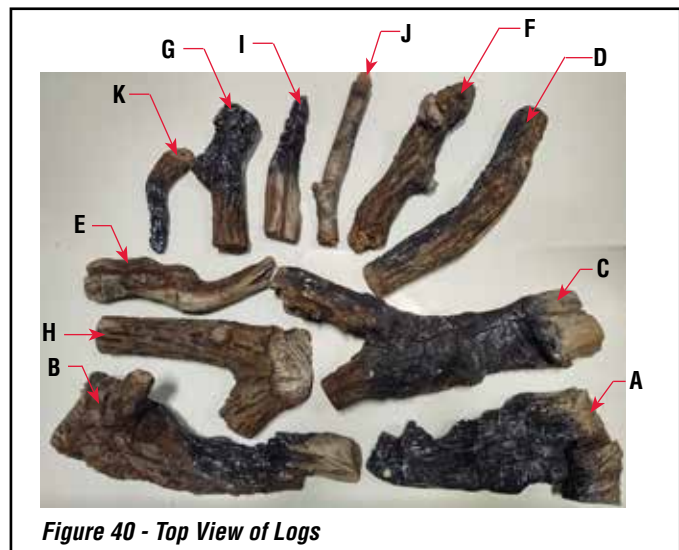

**Figure 39 - Preparation of Glowing Ember Material**
- a) Separate some of the glowing ember material into pieces **about the size and thickness of a dime** (see **Figure 39**). Keep the pieces fluffed up, not matted.